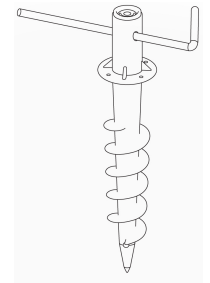

Fig. 3
3. Pole can be installed on a flat surface using the screws provided, or grounded using the EZ-Anchor (Fig. 3)
2. Place the Turning bar (C) in the hole through the Auger bit, Fig. 3
6. Remove the Turning Bar and place the Adaptor (A) on to the Auger bit. Secure it with the supplied nut and bolt.